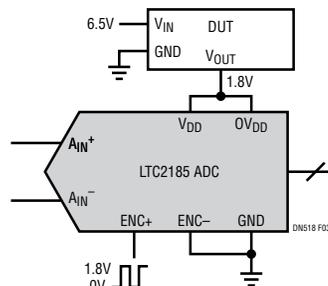

Figure 3. Noise Test Schematic Using Different Supplies to Power 16-Bit LTC2185 ADC
When powering high speed analog-to-digital converters (ADCs), it is important to use a power supply that is as clean as possible. Any switching spurs that are present on the power supply rail will translate into AM modulation in the ADC output spectrum. The noise performance of the **LTC[®]2185**, a 16-bit ADC, was evaluated to see the difference between using (1) a typical LDO, (2) a typical switching regulator, and (3) the **LTM8028** low noise μ Module regulator. A simplified schematic of the test is shown in Figure 3, where the DUT is represented by either of the configurations.